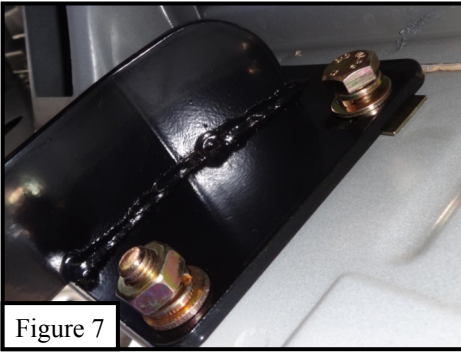

Figure 7
3. Locate the second mounting point on the rocker panel (**Figure 5**), insert (2) M10 clip nuts (Item 9) onto the small circular holes (**Figure 6**). Attach the mounting bracket to the existing holes in the pinch weld using (2) M10 hex cap screws (Item 5), (2) M10 spring lock washers (Item 7), and (2) M10 flat washer (Item 6). Attach the mounting bracket to the existing holes in the pinch weld using (2) M10 hex cap screw (Item 5), (4) M10 flat washer (Item 6), (2) M10 spring lock washer (Item 7), and (2) M10 hex nut (Item 8). (**Figure 7**) **Do not fully tighten at this time.**